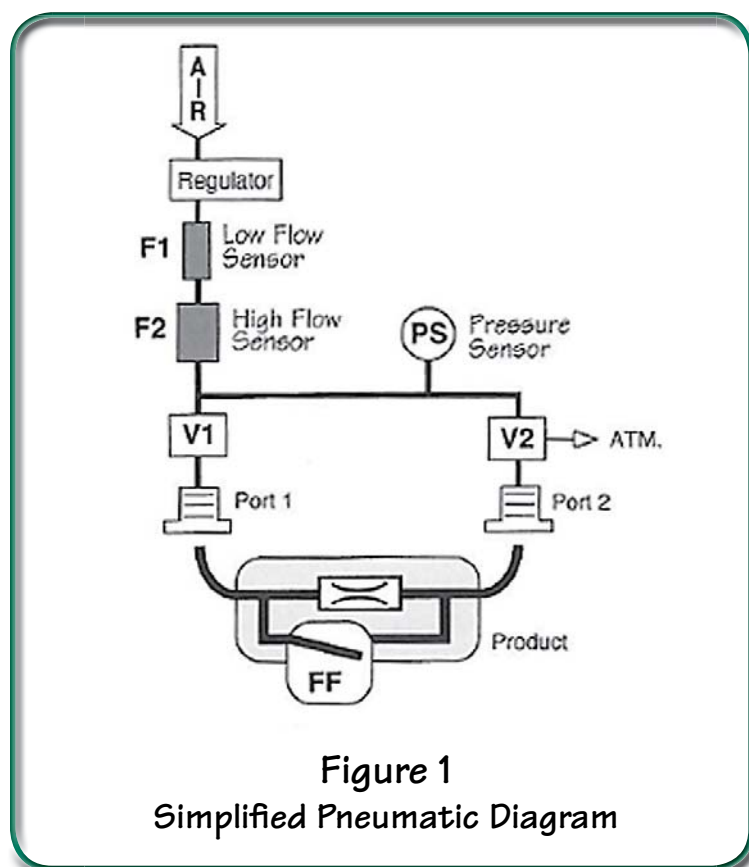

Figure 1
- The product is attached to both test ports and Sprint iQ is started by the operator or automated equipment. Air is routed to both Port 1 and Port 2 to conduct a leak test on the product body. (Figure 1)